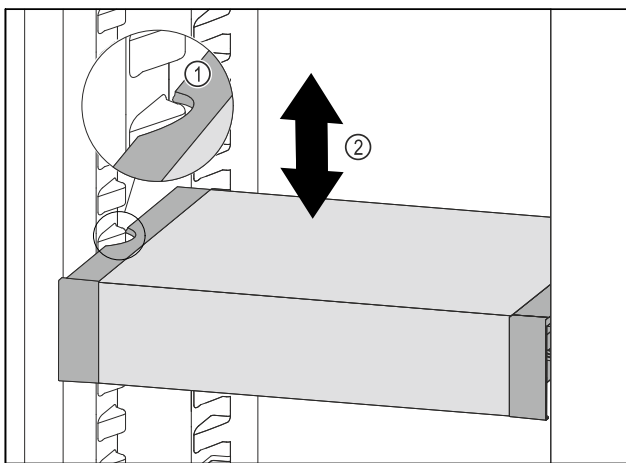

Fig. 204
- ▶ Pull VarioSafe forwards until the recesses in the side of the VarioSafe are at the level of the support rib in the refrigerator compartment. Fig. 204 (1)
- ▶ Move VarioSafe up or down in the refrigerator compartment until the desired height is reached. Fig. 204 (2)